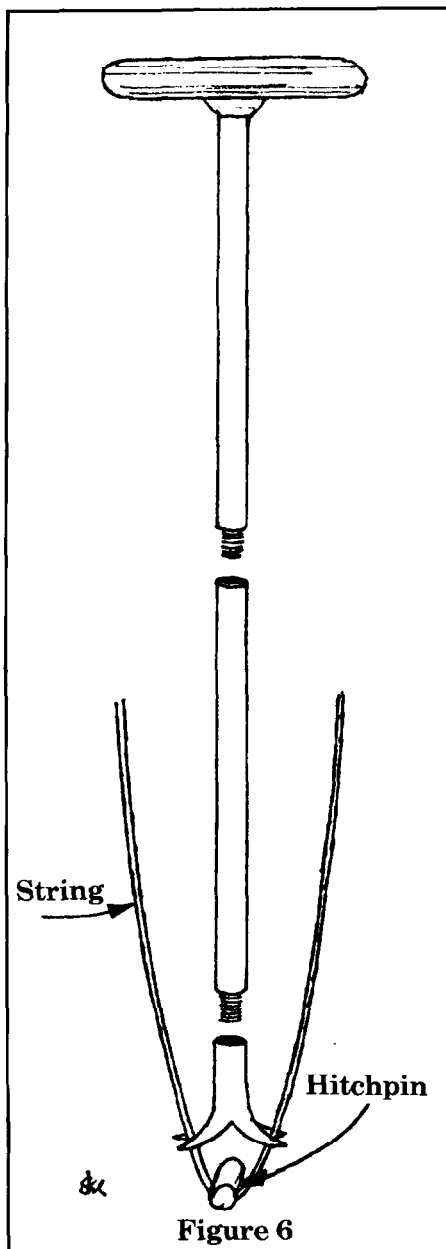

Figure 6
*My gadget is made from a steel sectional gun cleaning rod. I use it to hold drop stickers in place when removing a drop action—nothing new. But I have taken the small end piece which holds the brush, split it on the end and notched it so it looks like this (see figure 6). This is a great tool for placing strings over hitch pins in pianos without having to remove the action. The length of the tool is changed by the number of rod sections used which is determined by how far down into the piano you have to reach. It also has a nice handle. This idea is not new either, but using the gun rod may be. At any rate, it sure works well for me, fits nicely into a kit, and is now a multi-purpose tool.*